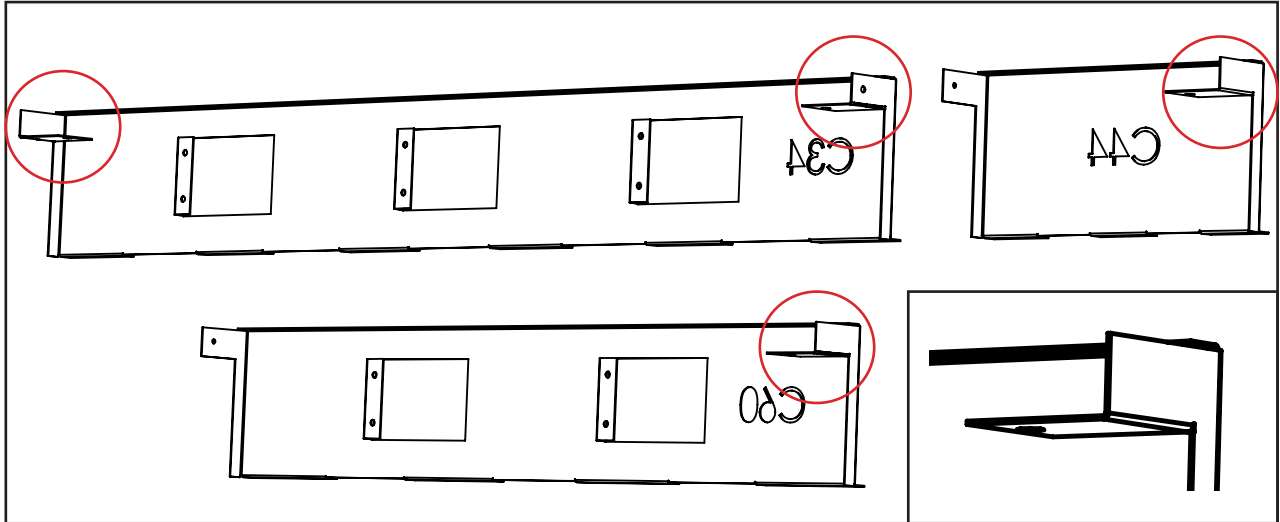

Figure 21. Rear Panel hand bent flanges
Step 2: All the Units use the C34 panel as a base. If installing a C44, use both the C34 and C44 panels. If installing a C60, use both the C34 and C60 panels. Once you have your required panels locate the flanges in the figure 21 below. Bend these flanges inwards 90deg to match the figure 21 below.
Step 3: Verify that all the hand bends shown above are bent inwards 90deg as shown in figure 21.